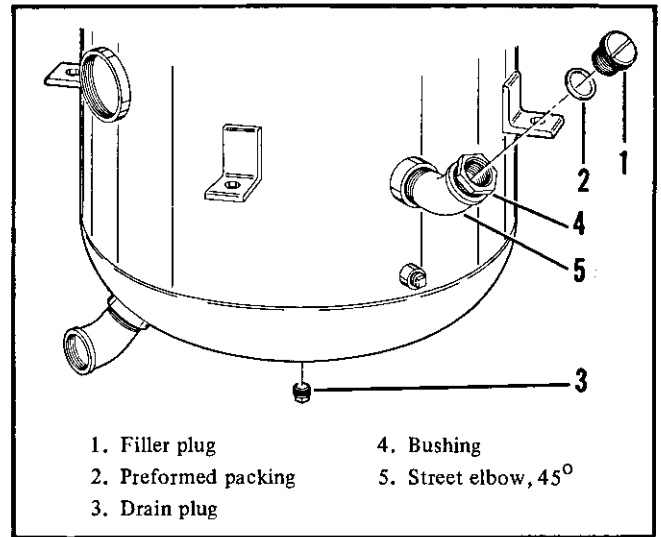

Figure 5-6. Oil separator drain and filler
a. Remove cap screws (1), lock washers (2), and clamps (3).
b. Loosen hose clamps (4), remove breather tube (5), hose (6), and clamps (4).
c. Remove cap screw (7), copper washer (8), breather assembly (9), and preformed packing (10).
d. Flush breather assembly (9) in clean diesel fuel or solvent, P-D-680, or equivalent, until oil is removed from breather element. Shake breather assembly (9) to remove cleaning agent or blow dry with compressed air. Replace preformed packing (10) when necessary.
5-21. OIL SEPARATOR DRAIN AND FILLER (Figure 5-6). Remove filler plug (1) and preformed packing (2). Remove oil separator drain plug (3). If damaged, remove bushing (4) and elbow (5). Replace damaged parts and assemble in the reverse of disassembly.